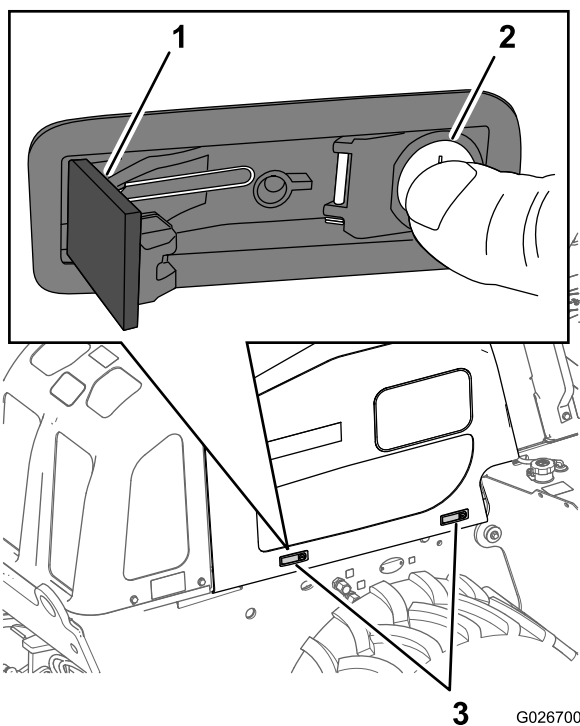

Figure 65
3. Press in the button portion of each latch—the part of the latch including the lock cylinder (Figure 65).
4. Set the latch by pushing in the latch lever (Figure 65).